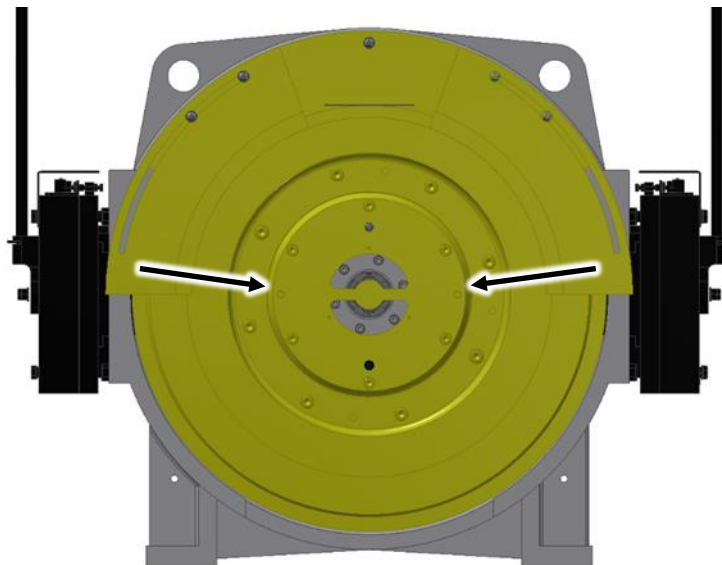

Figure 20
6. Insert 2 M10 bolts in jacking holes and jack the cover off. See Figure 20.